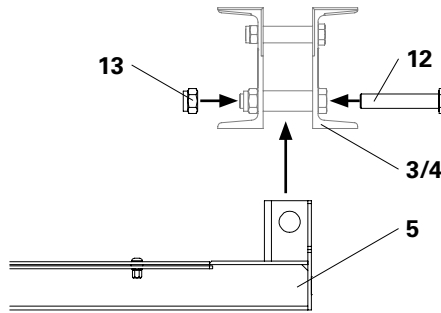
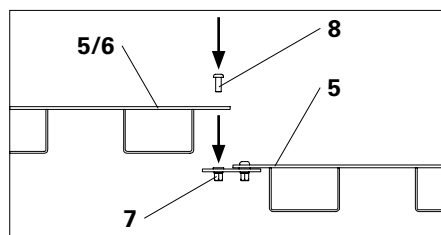

Fig. B2.02a
Fig. B2.04a
2. Attach Platform Panel RCS-MP (5/6) to the Climbing Rail RCS (3/4) using 4x Bolts ISO 4014 M24 x 130-8.8 (12) and Nuts ISO 7042 M24-8 (13) each. (Fig. B2.02a)
3. Insert next Platform Panel RCS-MP (5/6) between the Joint Filler Sheet RCS-MP 250 (7) and push into the Climbing Rail RCS (3/4).
4. Bolt Joint Filler Sheet RCS-MP 250 to the Platform Panel RCS-MP (5/6) using 7x Oval-Head Screws ISO 7380 M10 x 25-10.9 (9) each. (Fig. B2.04a)